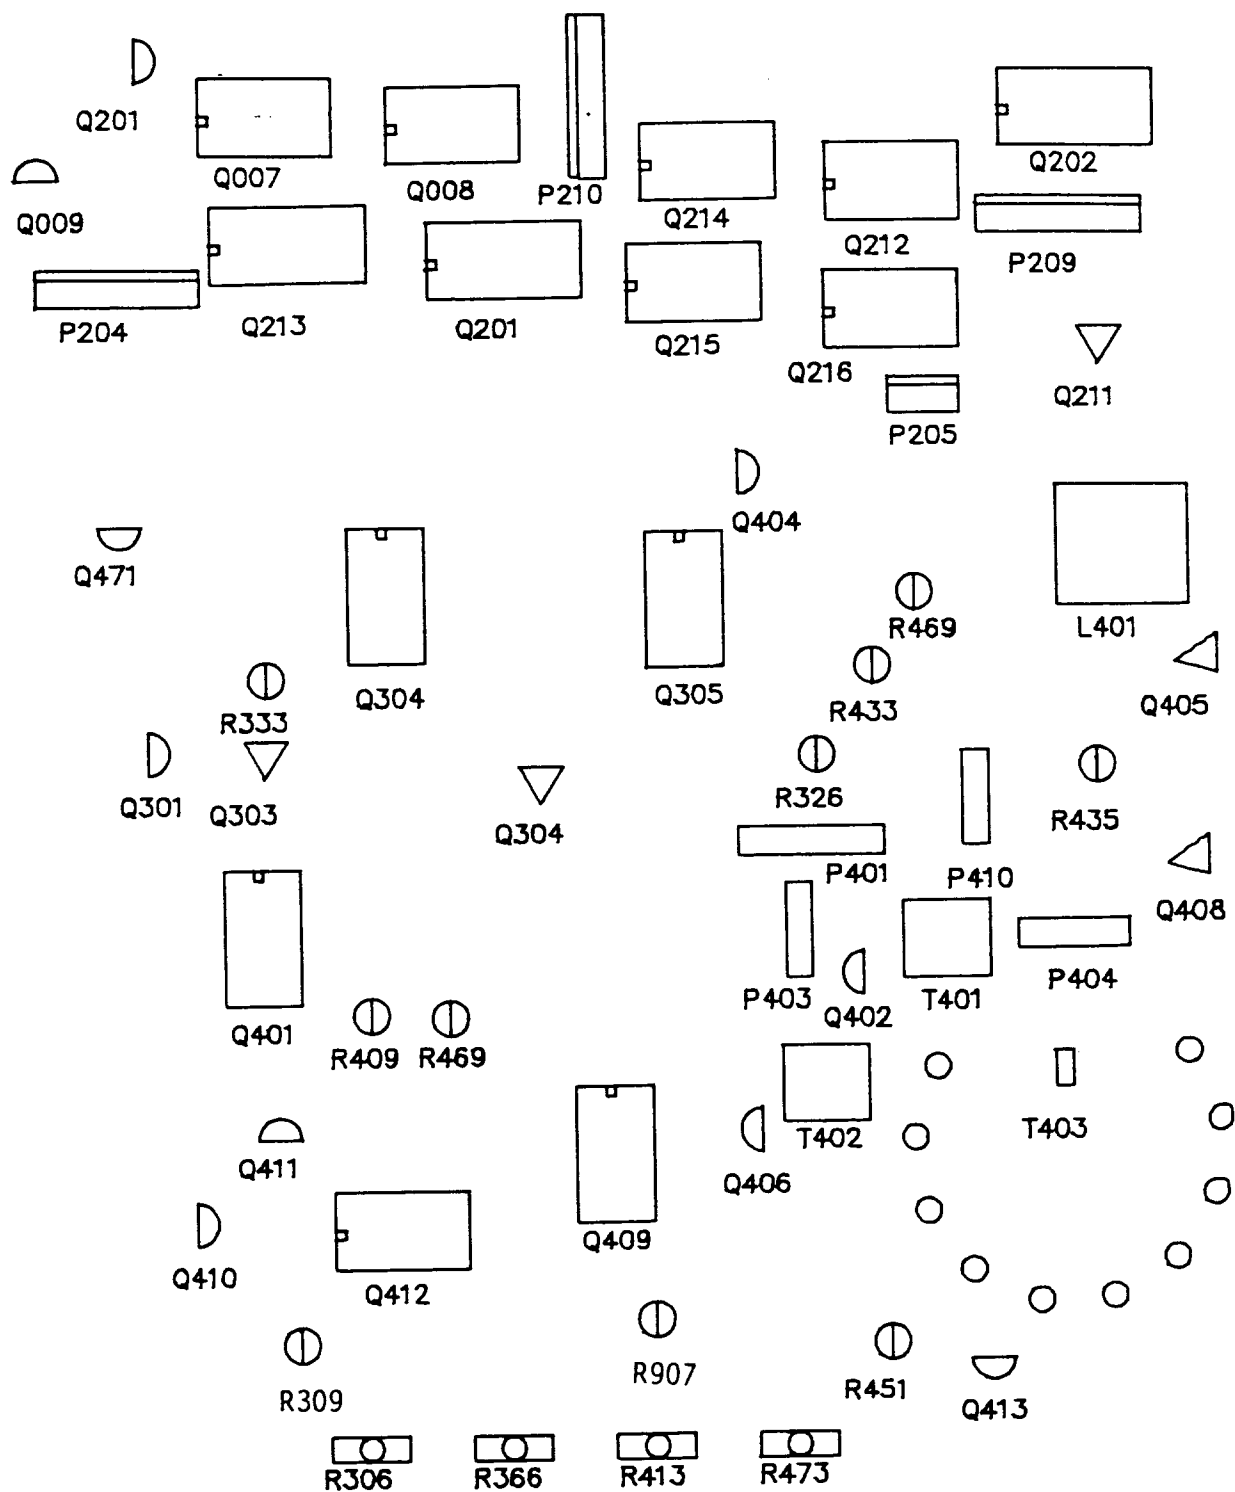

Fig 4-1 PCB-MAIN adjustment and test location
- (1) PCB-MAIN adjustment and test location. (See Fig 4-1)